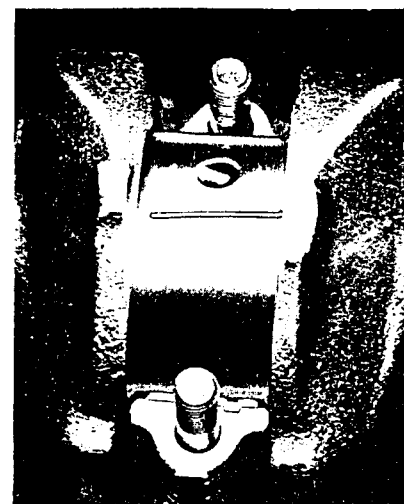

Figure 8-1-40
4. Place a piece of Plastigage gauging plastic the full width of the bearing on crankpin (parallel to the crankshaft), (see Figure 8-1-40).